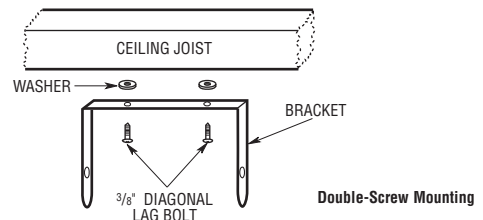

Figure 2
1. Remove the bracket from the heater and position to the desired mounting location (see Figure 2). Securely attach to the building structure using appropriate hardware (supplied by others).